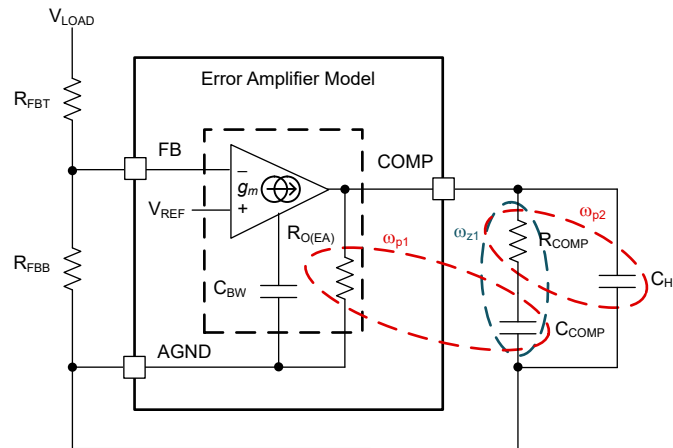

図 7-3. Error Amplifier and Compensation Network
図 7-3 shows a type-II compensator using a transconductance error amplifier (EA). The dominant pole of the EA open-loop gain is set by the EA output resistance, $R_{O(EA)}$, and effective bandwidth-limiting capacitance, C_{BW} , as shown by 式 34.